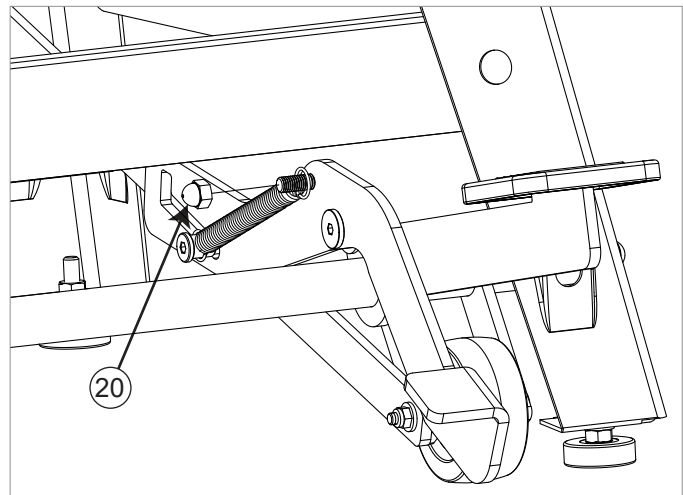

Fig. 16
16. Stretch the free end of the extension spring over the end of the M8 x 30 hex screw that extends from the release lever. Thread the M8 cap nut onto the M8 x 30 hex screw to hold the extension spring in place (see Fig. 16) , and fully tighten the cap nut with two 13 mm wrenches.